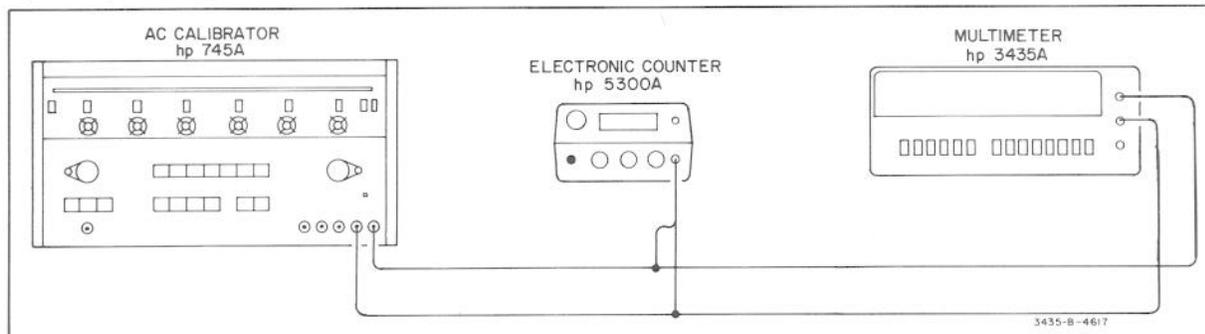

Figure 5-6. AC Normal-Mode Rejection Test.
- Connect the test equipment as shown in Figure 5-6. Do not connect the Multimeter at this time.